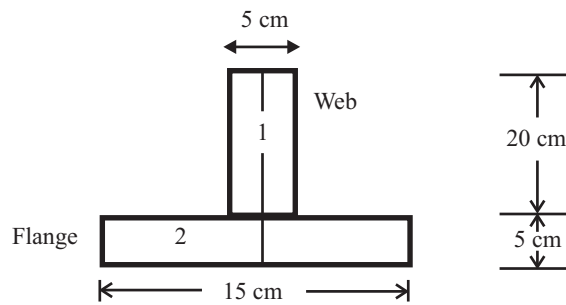

Fig 16.9
Q. 14: Find the greatest and least moment of inertia of an inverted T-section shown in fig 16.9.